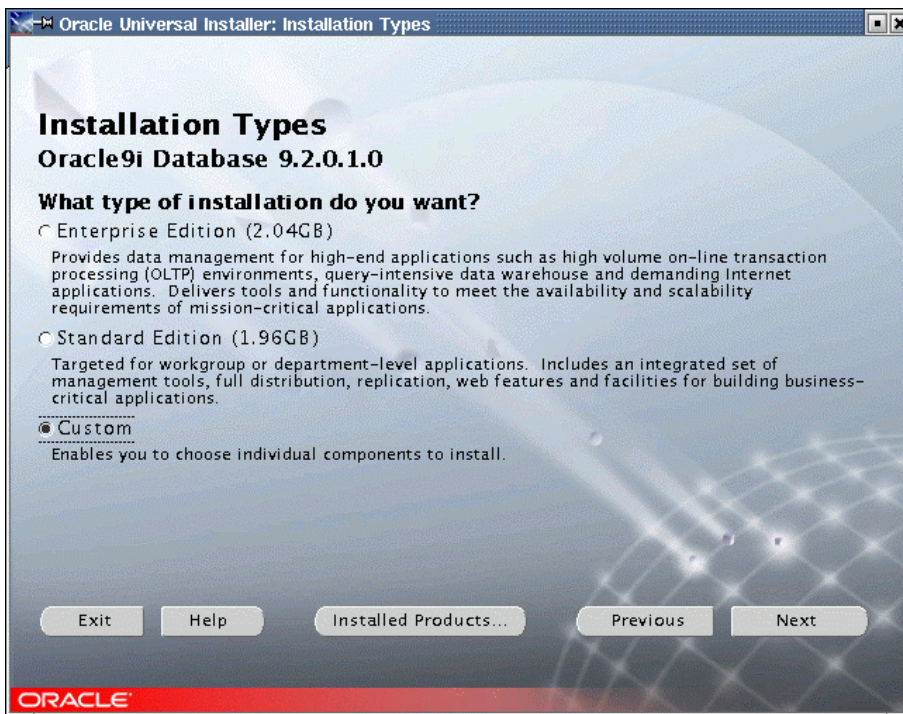

Figure 41. Installation Types
3. The next window displayed is for Installation Types (Figure 41). Select **Custom** to have full control over the components being installed. Click **Next** to continue.